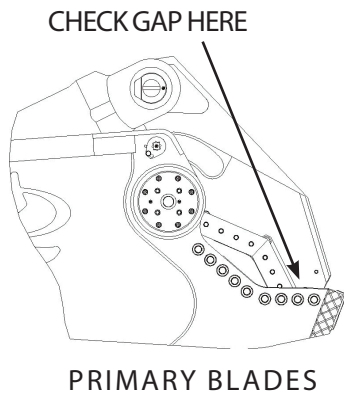

FIGURE 5-18
1. To check for blade gap, close the shear until the secondary blades in the upper and lower shear begin to bypass (see Figure 5-18). Start with the thickest shims and check to see how many shims can be slipped between the blades and record this amount. Another method is to use a feeler gauge to check the blade gap and record it.